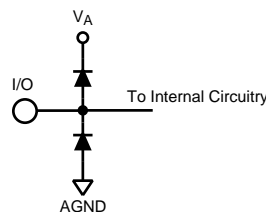

Figure 2.
- (1) The inputs are protected as shown below. Input voltage magnitudes above V_A or below GND will not damage this device, provided current is limited per Note 4. However, errors in the A/D conversion can occur if the input goes above 2.6V or below GND as described in the Operating Ratings section. See Figure 2.
- (2) With a full scale differential input of 2V_{P-P}, the 12-bit LSB is 488 μV.
- (3) Typical figures are at $T_A = 25^\circ\text{C}$ and represent most likely parametric norms at the time of product characterization. The typical specifications are not ensured.
- (4) The input capacitance is the sum of the package/pin capacitance and the sample and hold circuit capacitance.
- (2) With a full scale differential input of $2V_{P-P}$, the 12-bit LSB is $488\text{ }\mu\text{V}$.
- (4) This parameter is specified in units of dBFS - indicating the value that would be attained with a full-scale input signal.
- The inputs are protected as shown below. Input voltage magnitudes above V_A or below GND will not damage this device, provided current is limited per Note 4. However, errors in the A/D conversion can occur if the input goes above 2.6V or below GND as described in the Operating Ratings section. See Figure 2.
- (2) With a full scale differential input of $2V_{P-P}$, the 12-bit LSB is 488 μV .
- (4) This parameter is ensured by design and/or characterization and is not tested in production.